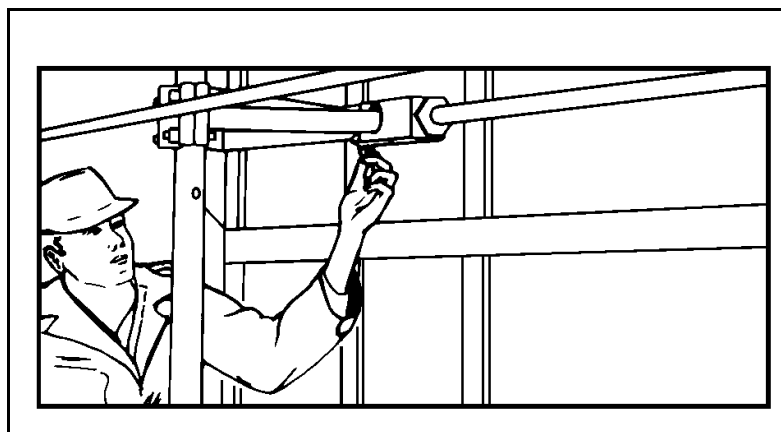

Figure 17-3. Pulling Out Eye Pin
- **Step 4.** Go into the lazarette and pull out the eye pins (Figure 17-3) to disconnect the hydraulic cylinder and the tie rod.